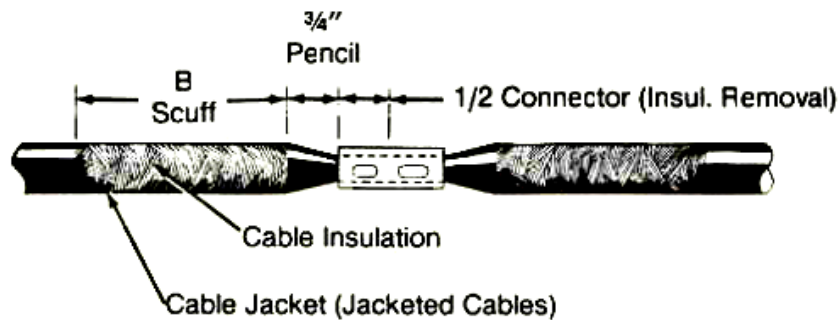

Figure 1
- Remove conductor insulation (and jackets if applicable) for ½ connector length. (Figure 1)
- Smoothly pencil cable insulations for ¾". (Figure 1)
- Scuff ends of insulation or jacket for Dimension "B" with coarse abrasive cloth provided. Remove all wax, dirt and dust from surface. (Table 1 and Figure 1)